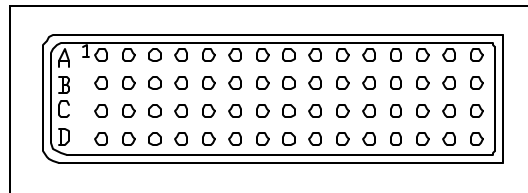

Figure 25: 60 pin Bendix connector.
Step 2 – Orient the connector as shown in *Figure 25*.